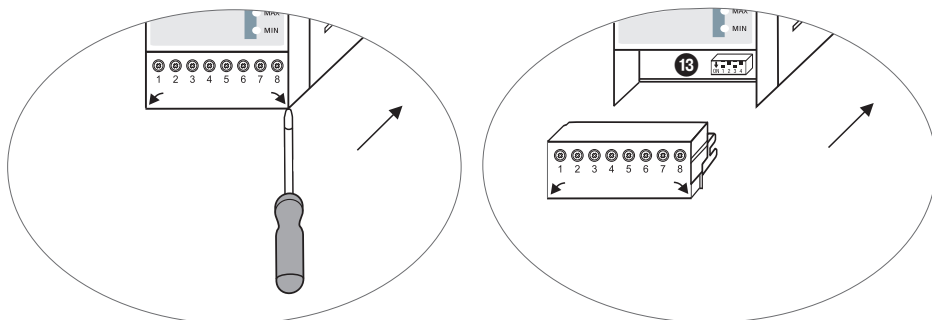

Fig. 5
- Remove **lower** terminal strip. **Fig. 5**